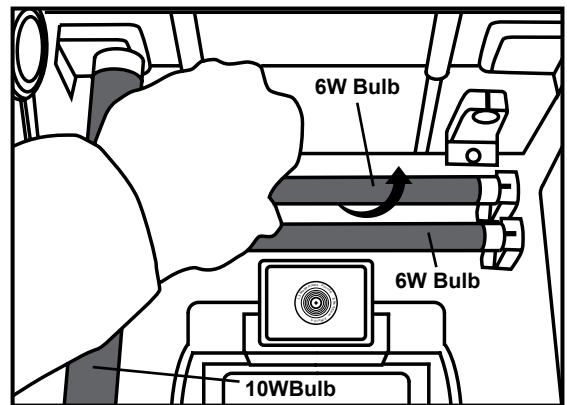

Figure 4
5. Install the bulbs if they did not come preinstalled (fig. 4). Carefully line up each bulb's prongs with its socket loading slots. Rotate each bulb 90 degrees.